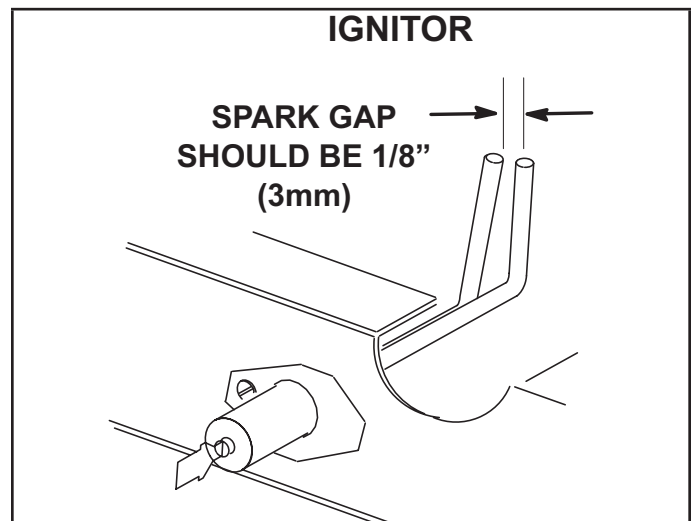

FIGURE 22
- 4 - Locate the ignitor under the left burners. Check ignitor spark gap with appropriately sized twist drills or feeler gauges. See FIGURE 22.